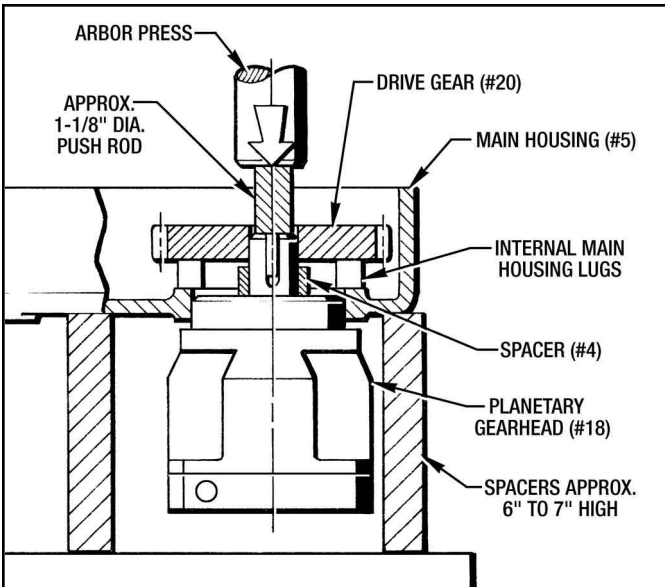

Figure 4.4 - Removing Drive Gear (#20)
If the Drive Gear (#20) has to be removed from the Planetary Gearhead (#18), use the following procedure as shown in Figure 4.4.
1. Remove the (4) Screws (#42) and (4) Lockwashers (#43).
2. Press the Planetary Gearhead (#18) out of the Drive Gear (#20) with an arbor press as shown in Figure 4.4